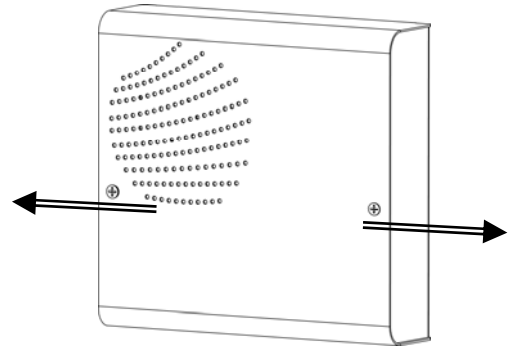

Fig. 1
- 2) Slide the cover on one side as shown on Figure 1.